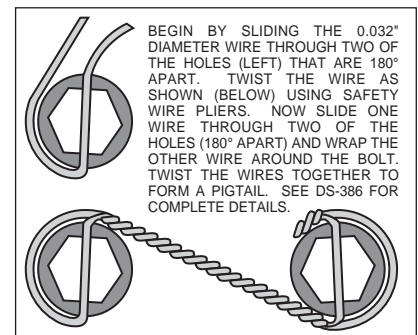

Figure 3. Safety Wire Diagram
- Identify the left and right caliper mounting brackets (1). Both brackets will be offset to the rear of the vehicle with the threaded inserts and the beveled bolt holes facing the outside of the vehicle. Apply red *Loctite*® 271 to bolt threads (2 and 5) before assembly of the caliper bracket (1) to backing plate face of spindle. Insert the two upper mounting bolts (2) and the lower mounting bolt (5) through the caliper mounting bracket (1). Place one upper mounting bracket spacer (3) over each of the upper mounting bolts (2). Slide a lower mounting bracket spacer (6) over the lower mounting bolt (5). Position the caliper mounting bracket (1) onto the spindle, slipping each of the three mounting bolts (2 and 5) through the spindle holes. The lower ball joint may have moved when the original bolts were removed. Re-alignment may be necessary for the lower bolt (5) to slide through. Install two lock nuts (4) on the upper mounting bolts (2) and finger tighten. Install one lock nut (7) on the lower mounting bolt (5) and finger tighten. Torque two bolts (2) to 47 ft-lb. Torque bolt (5) to 65 ft-lb. **NOTE:** Be sure the heads of the caliper bracket (1) insert nuts are facing outward toward the wheel.
- Install five new wheel studs (8) into the hub (9). Torque to 77 ft-lb. **NOTE:** There are two five lug patterns in the hub (5 x 4.00 and 5 x 4.50). Make sure of the correct hole pattern for the correct wheel application before installing studs into hub.
- Pack the large inner bearing cone (10) with high temperature disc brake bearing grease (available from your local auto parts store) and install into the backside of the hub (9). Install the grease seal (11) by pressing into the backside of the hub (9).
- Attach rotor adapter (12) to rotor (13) using six bolts (14). Torque bolts to 180 **in-lb**. Safety wire bolts (14) using standard 0.032 inch diameter stainless steel safety wire as shown in Figure 3. Please refer to Wilwood's data sheet DS-386 for complete safety wire installation instructions. **NOTE:** The flat side of the rotor (13) lugs face toward the rotor adapter (12) with the dished side of the rotor adapter (12) facing away from the rotor (13).